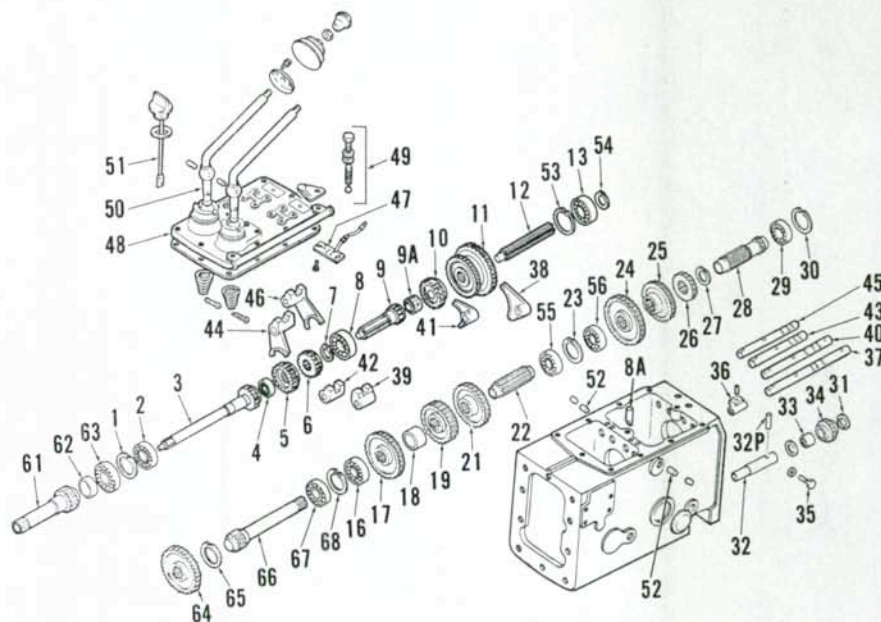
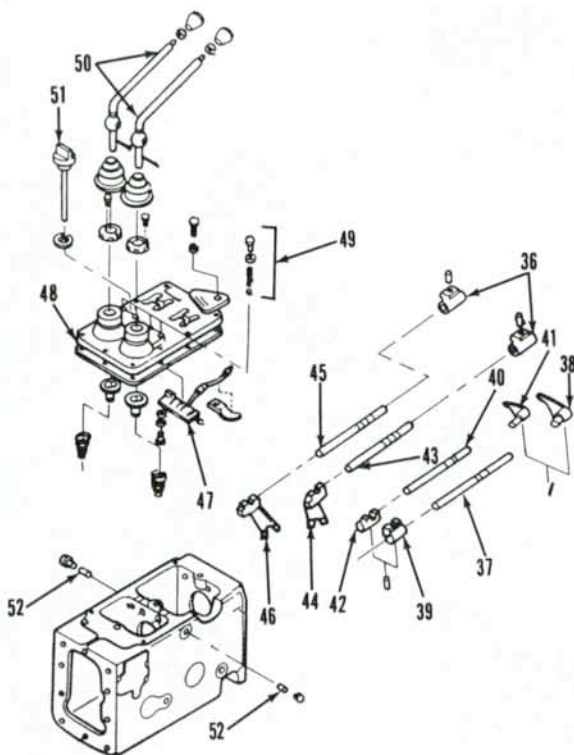
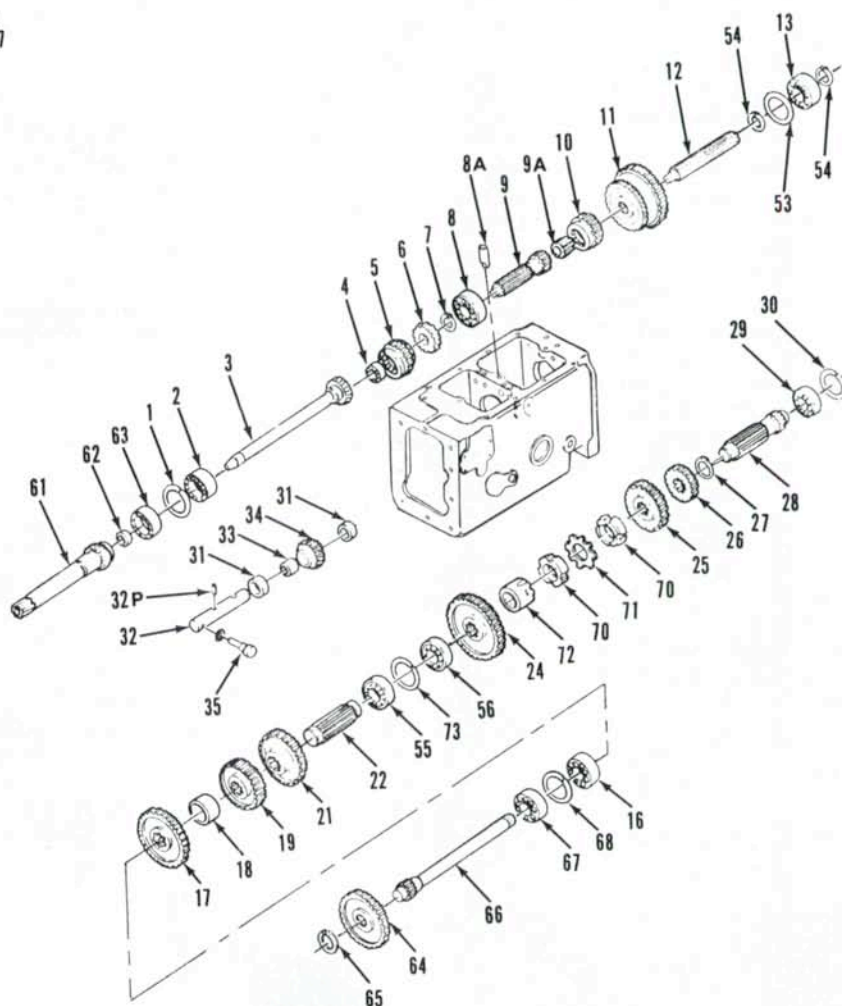

Fig. 209—Exploded view of nonsynchromesh transmission used on 1900 and 1910 models which are equipped with dual plate engine clutch (live pto).
Fig. 210—Exploded view of shift control linkage used on 2110 models with nonsynchromesh transmission. Refer to Fig. 209 for legend.
Fig. 211—Exploded view of nonsynchromesh transmission used on some 2110 models.
The nonsynchromesh transmission used on 1900 and 1910 models equipped with dual plate clutch (engine driven pto) is shown in Fig. 209. The nonsynchromesh transmission used on 2110 models is similar and is shown in Fig. 210 and 211. The forward section of transmission provides three forward speeds and one reverse. The rear section provides four range speeds. Together, the main and range sections provide the tractor with twelve forward speeds and four reverse speeds.
On 2110 models, straighten tabs of lockwasher (71—Fig. 211) and loosen locknuts (70) on rear countershaft (28). On all models, remove snap ring (30—Fig. 209 or 211) retaining countershaft rear bearing. Remove countershaft and rear bearing rearward from housing while withdrawing gears (24, 25 and 26) out top opening. Remove snap ring (68) retaining front countershaft bearing. Drive front countershaft (22) and bearing (16) forward out of housing and remove gears (17, 19 and 21) and spacer (18) out top of housing.
128. Refer to appropriate Figs. 209, 210 and 211 for exploded view of transmission and shift linkage. To disassemble, remove safety wires and drive roll pins out of shift rails. Slide range gear shift rails forward out of housing while removing shift forks (38 and 41) and bosses (39 and 42). Withdraw range mainshaft (12) and bearing (13) from rear of housing and remove range sliding gears (10 and 11) out top of housing. Slide main gear shifter rails from housing while removing shift forks (44 and 46) and neutral start switch magnets (36).
Install front countershaft (22) assembly first, then install rear countershaft (28) assembly. On Model 2110, turn adjusting nuts (70—Fig. 211) on rear countershaft until all gear end play is removed. Bend tabs of lockwasher (71) to secure the nuts.
When installing front mainshaft (9—Fig. 209 and 211) assembly, be sure
When installing pto input shaft (61—Fig. 209 and 211) over transmission input shaft (3), be careful not to damage oil seal (62).